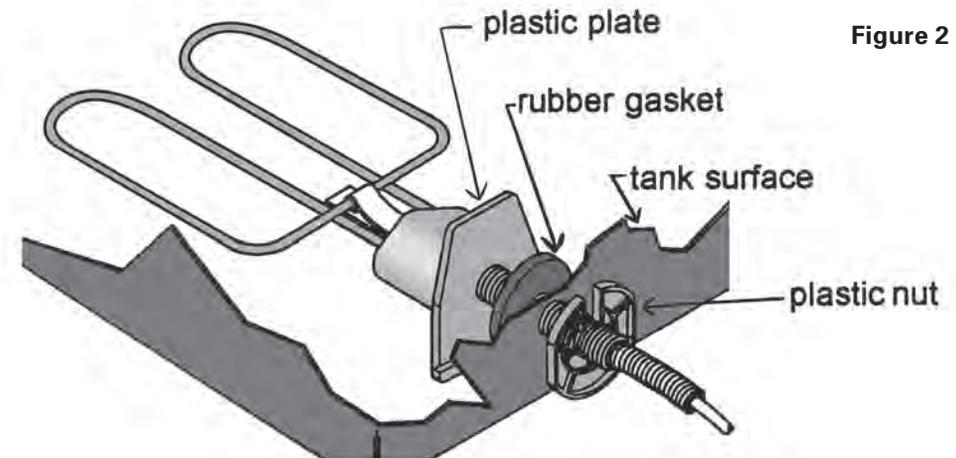
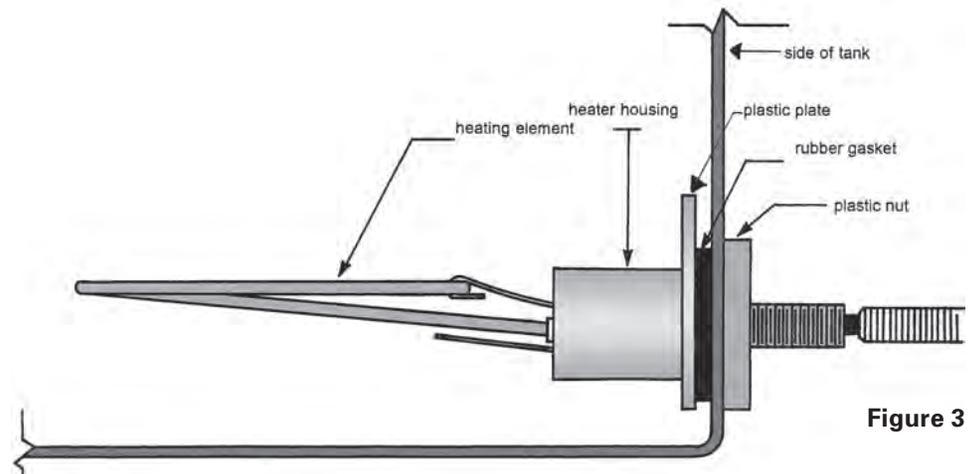

Figure 2
Figure 3
between the inside of the tank surface and the plastic plate of the heater housing (see Figure 2 and Figure 3).
9. Tighten the nut onto the threaded stem of the heater housing and up against the outside tank surface. Position the nut so that the raised ring fully inserts into the drain hole of the tank (see Figure 2 and 3). This is only necessary if you have determined that this ring is of smaller diameter than the drain opening in your tank as tested by completing step 3. This will stabilize the de-icer.